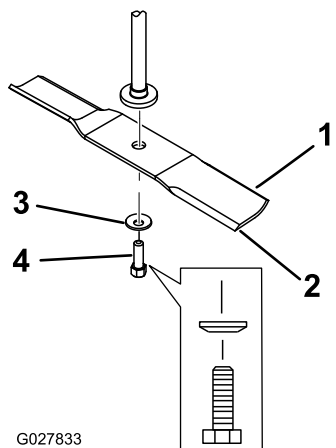

Figure 48
Hold the blade end using a rag or thickly-padded glove. Remove the blade bolt, curved washer, and blade from the spindle shaft (Figure 48).
1. Install the blade onto the spindle shaft (Figure 48).
2. Install the curved washer (cupped side toward the blade) and the blade bolt (Figure 48).